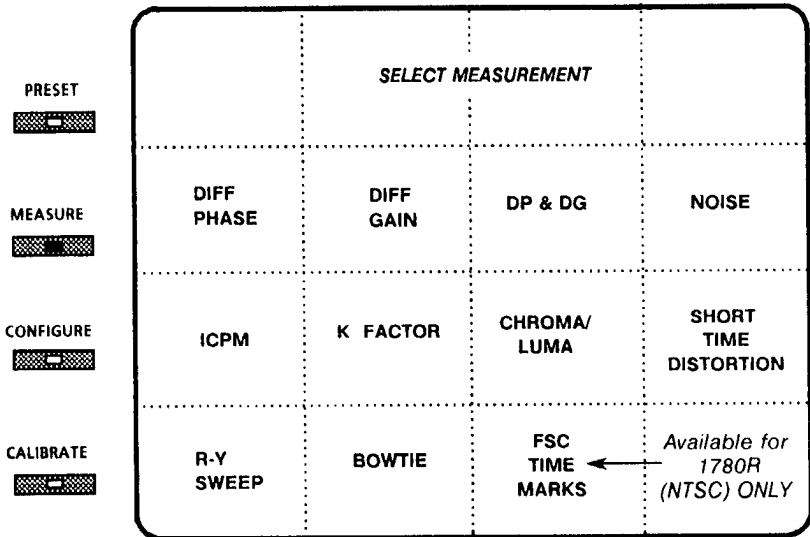

Figure 4-1: Measure Menu Access
**NOTE.** The measurements described in this section are accessed through the Measurement menu, shown in Figure 4-1.
Push the MEASURE button to enable the Measurement menu, as shown in Figure 4-1.